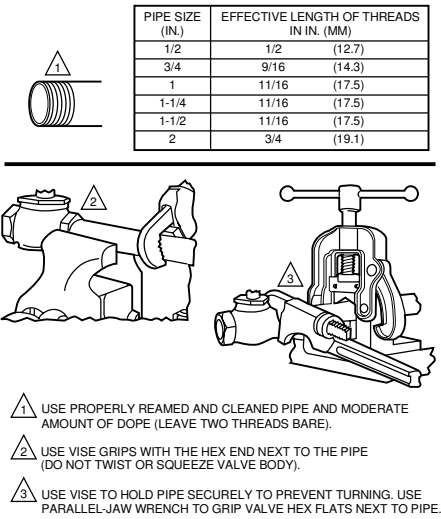

Fig. 1. Installing valve with threaded connections.
6. Hold the valve body with a clamp or pipe wrench on the hexagonal fitting nearest the pipe to prevent damage to the valve body while mounting on the pipe. Refer to Fig. 1.
Refer to Fig. 1 for valve pipe sizes and thread lengths. Fig. 1 also shows two effective methods of holding the valve and pipe when attaching it. The valve will not function properly if twisted or squeezed during installation.